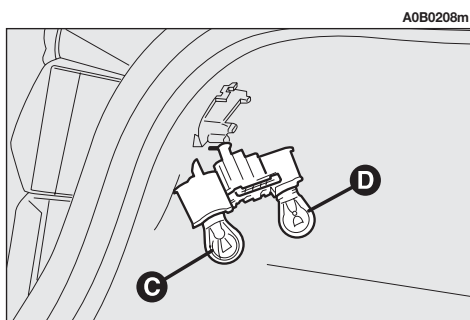

fig. 45
– Remove and replace the bulb concerned (spherical with bayonet coupling) pushing it gently and turning counter-clockwise (**fig. 45**).